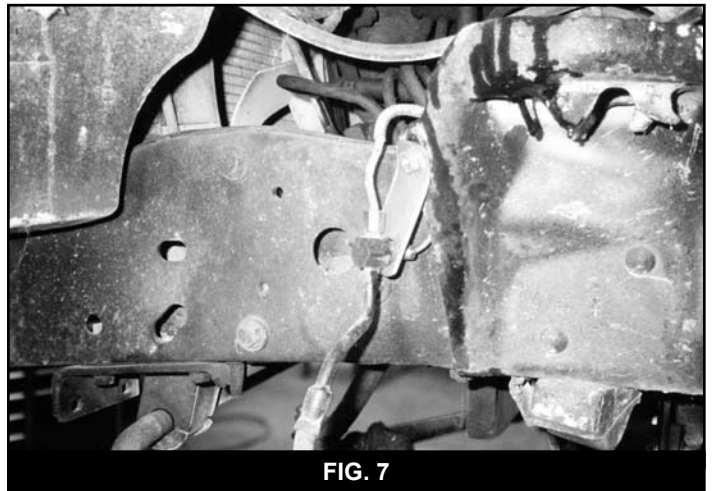

FIG. 7
13. Brake Line Drop- Driver's Side: Remove the brake line from the frame clip in the upper shock tower, which is the line off of the master cylinder. (Fig. 7)